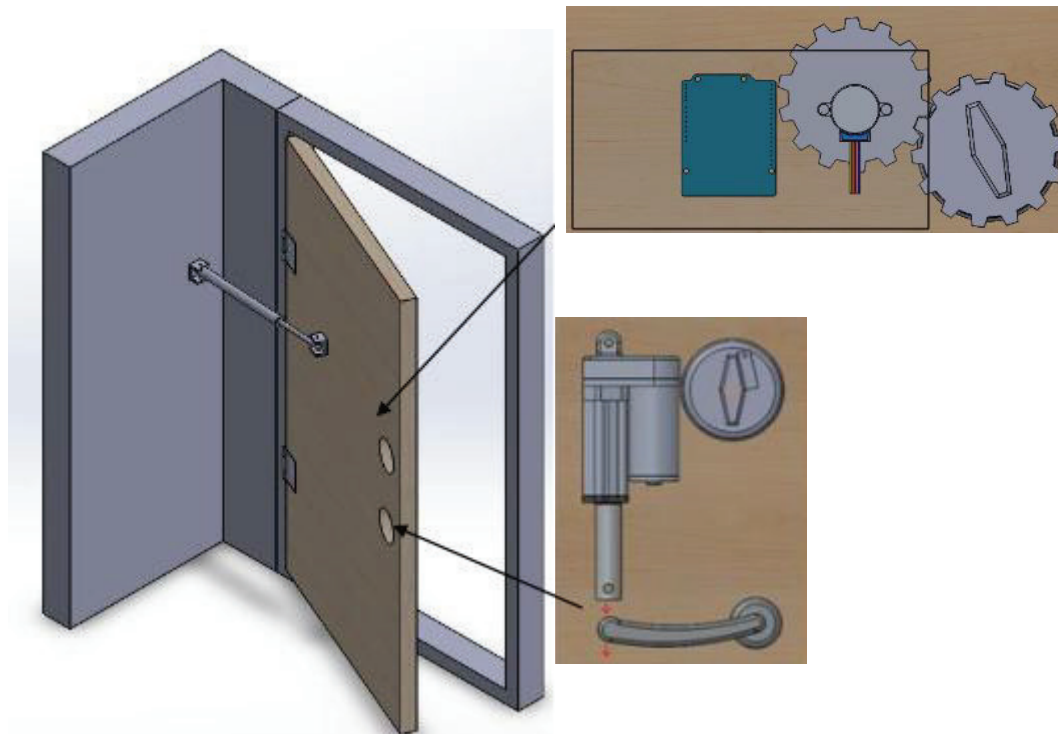

Figure 1: 3D conceptual model of Audolok
Since Smartphone's are becoming very popular in today's generation, all the features are conveniently accessed via the companion mobile application: *Audolok App*. Smartphone's use touch screen technology therefore require very little strength to perform tasks. eLOK Systems took advantage of this feature to alleviate challenges of unlocking and opening doors, in addition to preventing future injuries involved in performing such tasks. Audolok is an assembly of systems containing an Arduino Mega 2560, a Wi-Fi module and a motor driver. Mechanical parts controlled by the MCU's are gears, servo motors and linear actuators. A database will provide locations for authority and server based actions. A conceptual model of Audolok is shown below in figure 1.
**Motor:** A motor is used to rotate the deadbolt lock. Two gears are used (as shown in figure 1) to connect the motor to the deadbolt lock. Once the microcontroller receives a